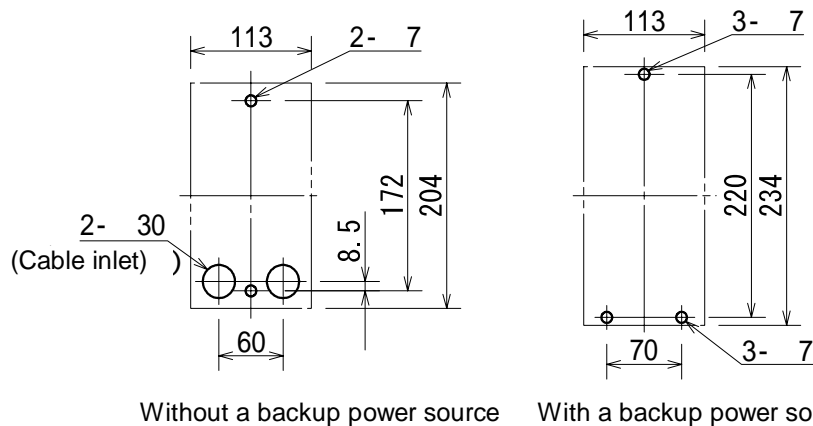

Fig. 4 Dimensions for Hanging the Equipment on the Wall
1. Make holes on the wall as shown in Fig. 4.